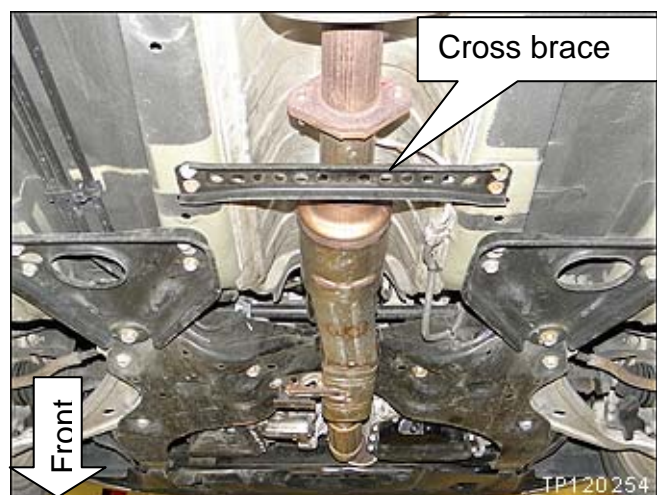

Figure P2
5. Remove the cross brace shown in Figure P2.